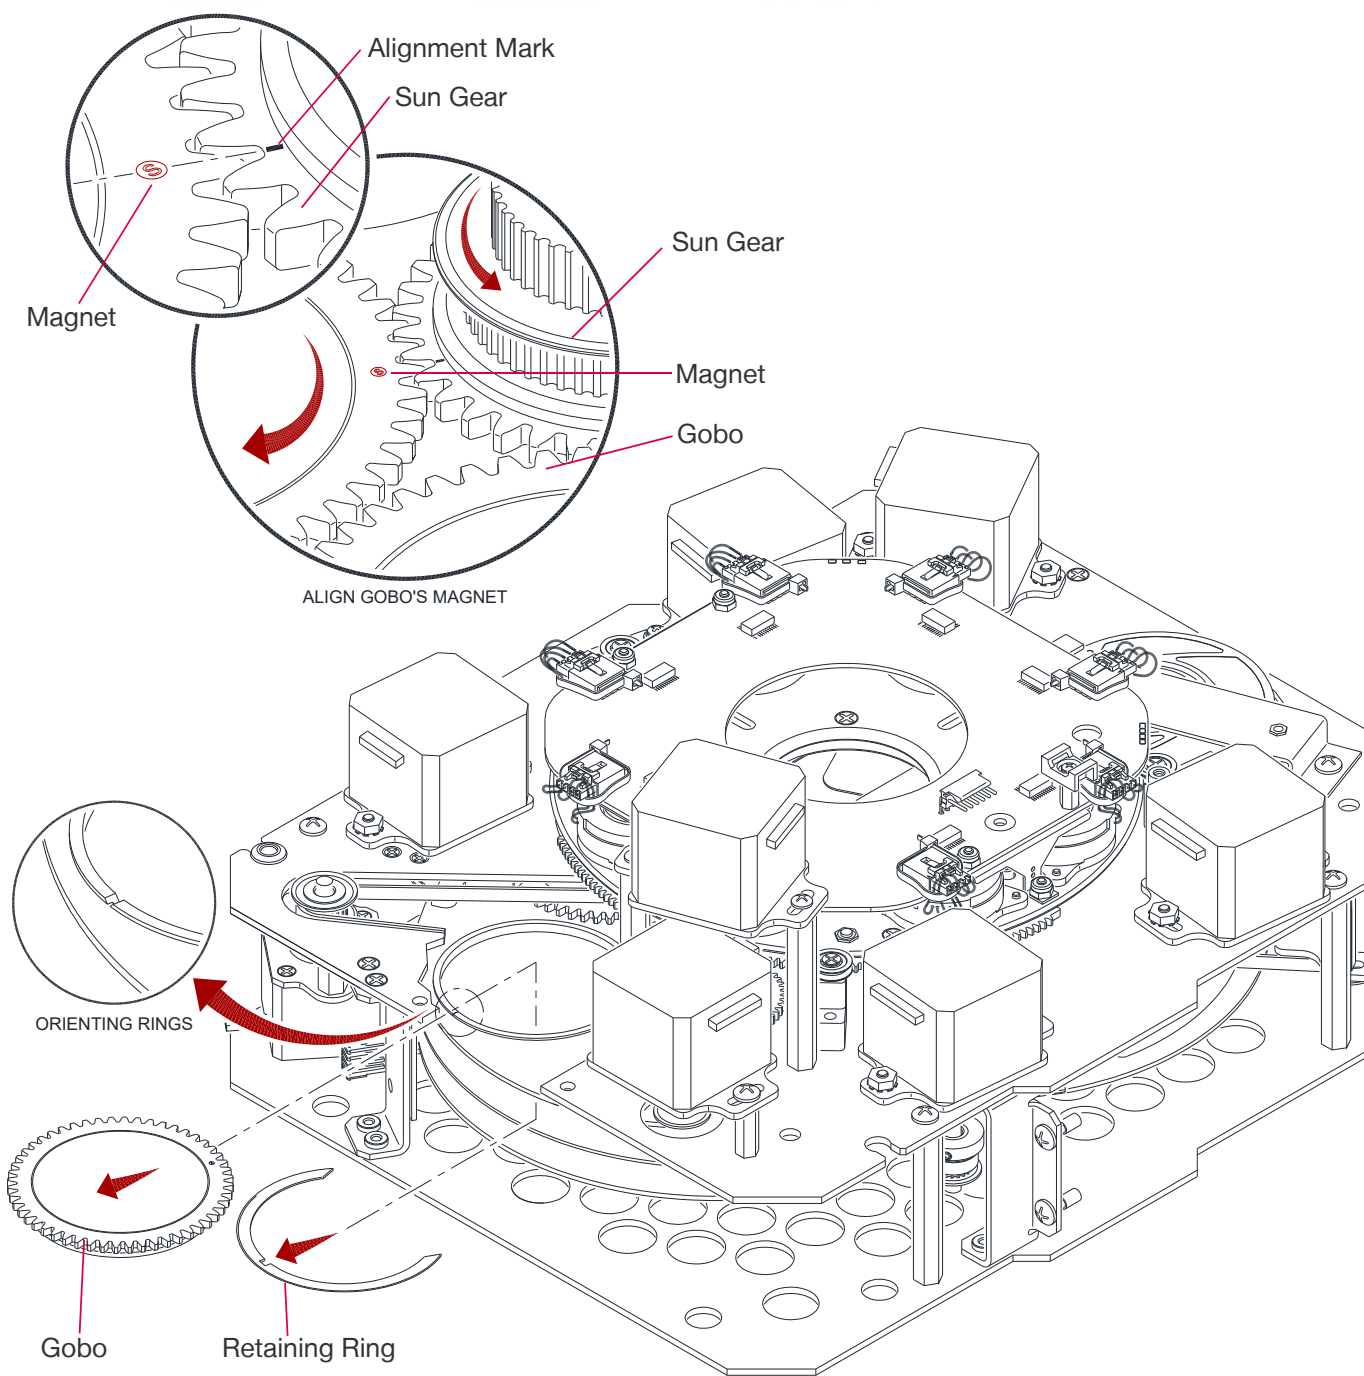

Figure 3-16: Removing a GCLT Gobo
- Step 10. Rotate the gobo to align the magnet with the alignment mark on the sun gear. **(Figure 3-16)**
- Step 12. Install the new gobo by aligning its magnet with the alignment mark on the sun gear and then inserting it into place (as shown on the next page, **Figure 3-16**).